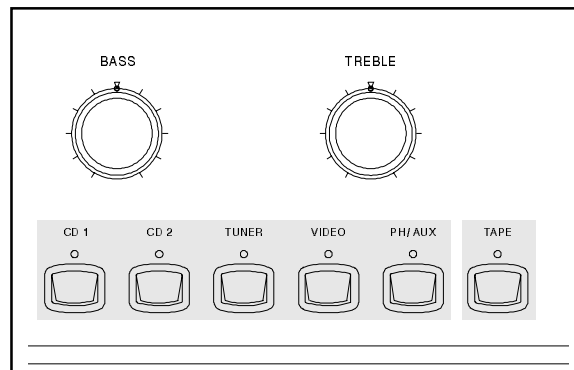

Figure 7
3. To listen to the tape playback of the program source just recorded, press the TAPE input push-button. Refer to figure 7.